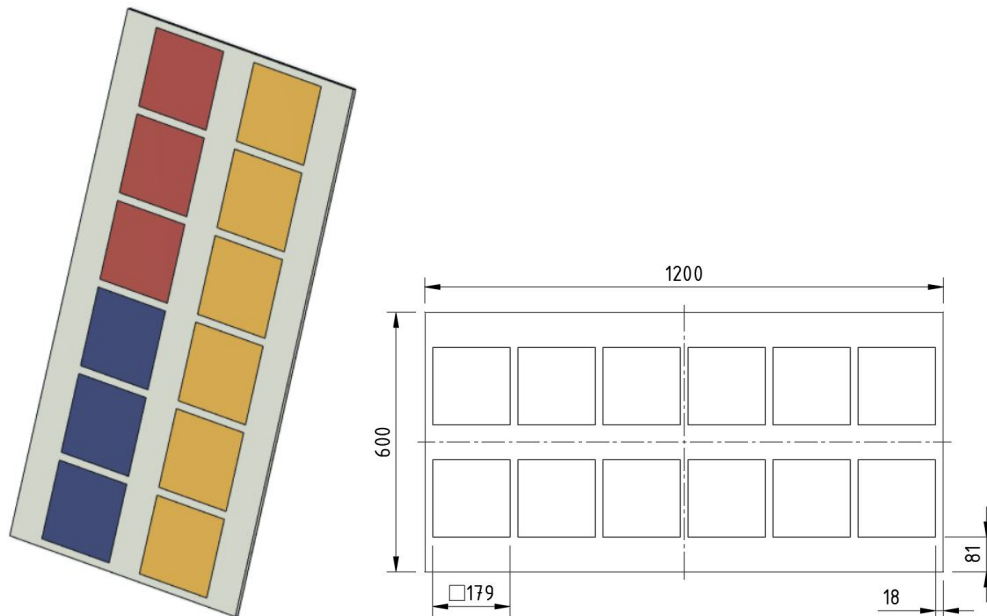

Figure 3: Layout of the environment on which the objects will be placed. It consists of 12 fields of the same size.
- a) Implement a custom ROS service server in *perception_server.py*. The proposed service is defined in **DetectObject.srv** file within the provided package. The service takes in a single point cloud message in the robot base frame (an example point cloud can be found in *perception.bag* file) and returns the centroid of an object located on the wooden board (Figure 3), also in the robot base frame. In *perception.bag* you will find the point cloud message recorded with the RealSense camera and transformed to the robot base frame. The point cloud shows an object placed on a wooden board, as it will be during the presentation of the laboratory exercise. However, the object might not be placed on the same position and it can vary in size. Objects can be placed only on red fields (Figure 4) and only one object will be placed on the board during the presentation of the laboratory exercise. Copy the written code in the text box below.
Figure 4: Robot setup consisting of Franka Emika Panda robot arm and SofIA gripper in a given environment. The wooden board (Figure 3) is symmetrically arranged with respect to the x_0 axis. **Objects that need to be grasped can be exclusively placed on RED fields. You will have only 1 object on the field during the solution presentation scenario.**